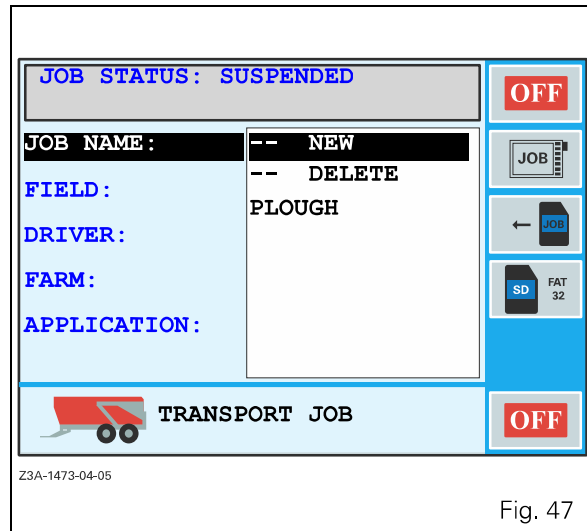

Fig. 47
- Press the **ESC** key to validate the word. The window (Fig. 47) is displayed.